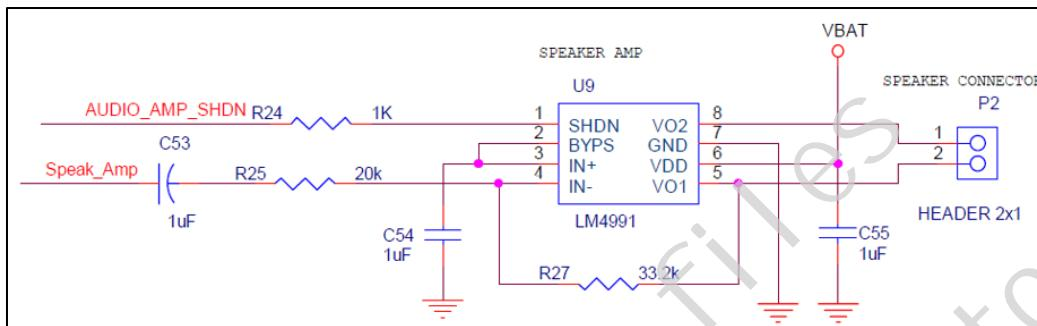

Fig 23-16 Reference design of using AB type power amplifier
- If the power amplifier is an AB type amplifier, refer to the design shown in Fig 23-16 (power amplifier is LM4991).
- 当您使用 AB 类功放时，请参考 Fig 23-16 设计（功率放大器的型号是 LM4991）。